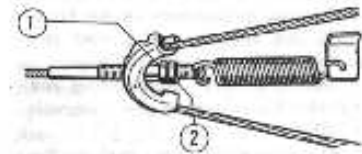

Fig 64. Adjusting parking brake lever travel. 1- adjusting nut, 2- locknut
- Loosen locknut 2 (Fig. 64), and turning adjusting nut 1, tighten the cable;